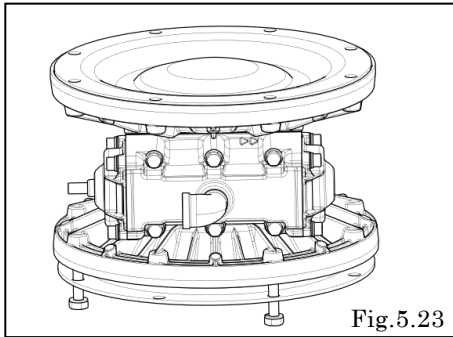
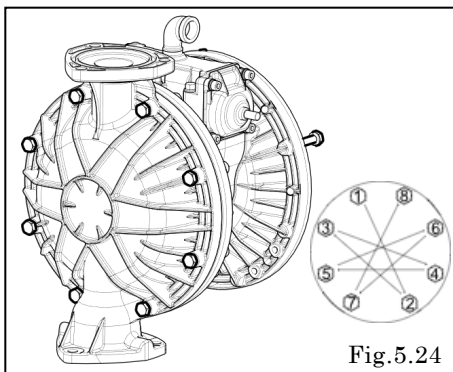

Fig.5.23
Fig.5.24
- When tightening the diaphragm at Fig. 5.20, the holes on the diaphragm should be at the same positions as the 8 screw holes on the air-chamber. Basically, those hole positions should be adjusted by rotating the diaphragm clockwise. If it is difficult, move the diaphragm counter-clockwise a little bit to adjust them [Fig.5.23]
- Install the out-chamber to the side where the diaphragm has been put on, as mentioned in the above Fig.5.23. [Fig.5.24].
- Fig.5.24 shows the standard positions of the out-chambers and the valve body assembly. But those positions can be freely changed, depending on how and where the pump will be installed.